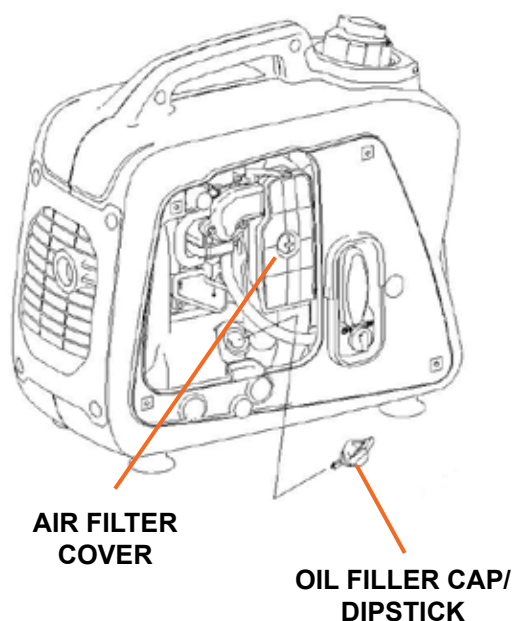

Figure 3
1. Place the portable power generator on a level surface. Check the oil level with the dipstick (see Figure 3). Do not screw in the oil filler cap when checking oil level.